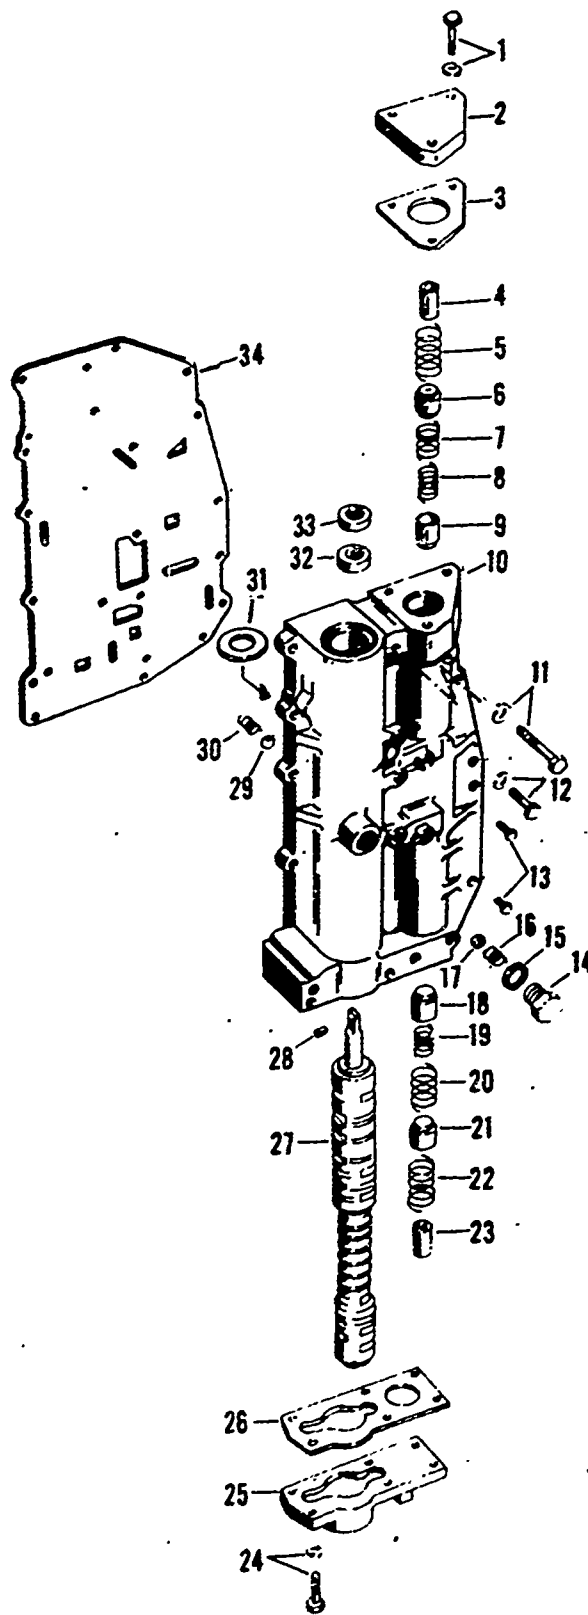

Fig. 2 Exploded view of range control valve
DISASSEMBLY -- (NOTE: For numbers in the following paragraphs, refer to Figure 2). For the following discussion, it is assumed that the valve has been removed from the transfer plate. When this is done, detent ball (29) and spring (30) will come out of the valve body (10).